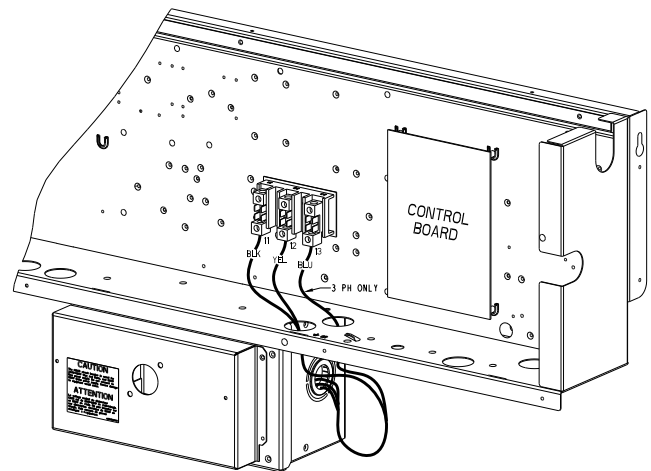

Fig. 21 — HACR Enclosure Location
1. Remove the Control Box access panel. The HACR enclosure is located below the Control Box (see Fig. 21).